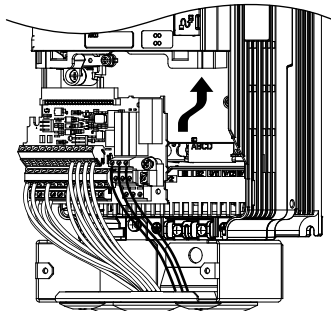

Figure 7.57 Install the Terminal Board
1. After wiring the main circuit, connect the terminal block to the drive as shown in Figure 7.57. Use the installation screw to fasten the terminal block into place.